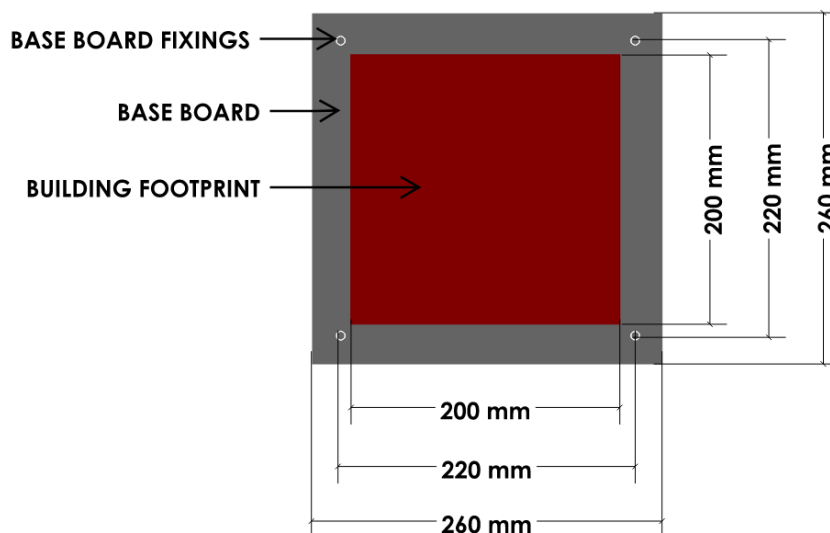

Figure 2: Definition of building footprint and base board
- The allowable site area is the 200 mm x 200 mm square shown as the dotted lines in Figure 2. The projection of the entire model onto the base board must be within this 200 mm x 200 mm square.
- Teams need to drill through-holes in the model base to accommodate M6 bolts, such that the model can be fixed to the model mounting board on the day of the competition. Bolt holes are to be 220 mm centres apart. Refer Figure 2 for clarity.